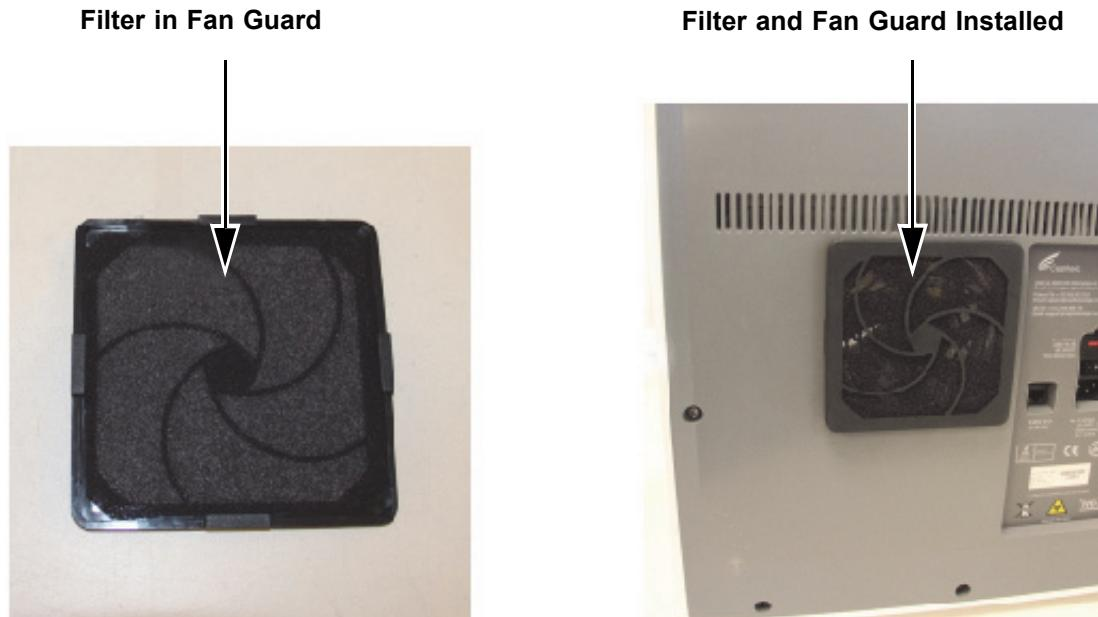

Figure 9-23. Replacing the Filter and Guard
7. Position the fan filter guard and filter into place as a unit. Press the sides of the guard firmly onto the fan housing until the grip snaps securely onto the fan. Press the bottom of the guard until the grip snaps securely onto the fan. See Figure 9-23.